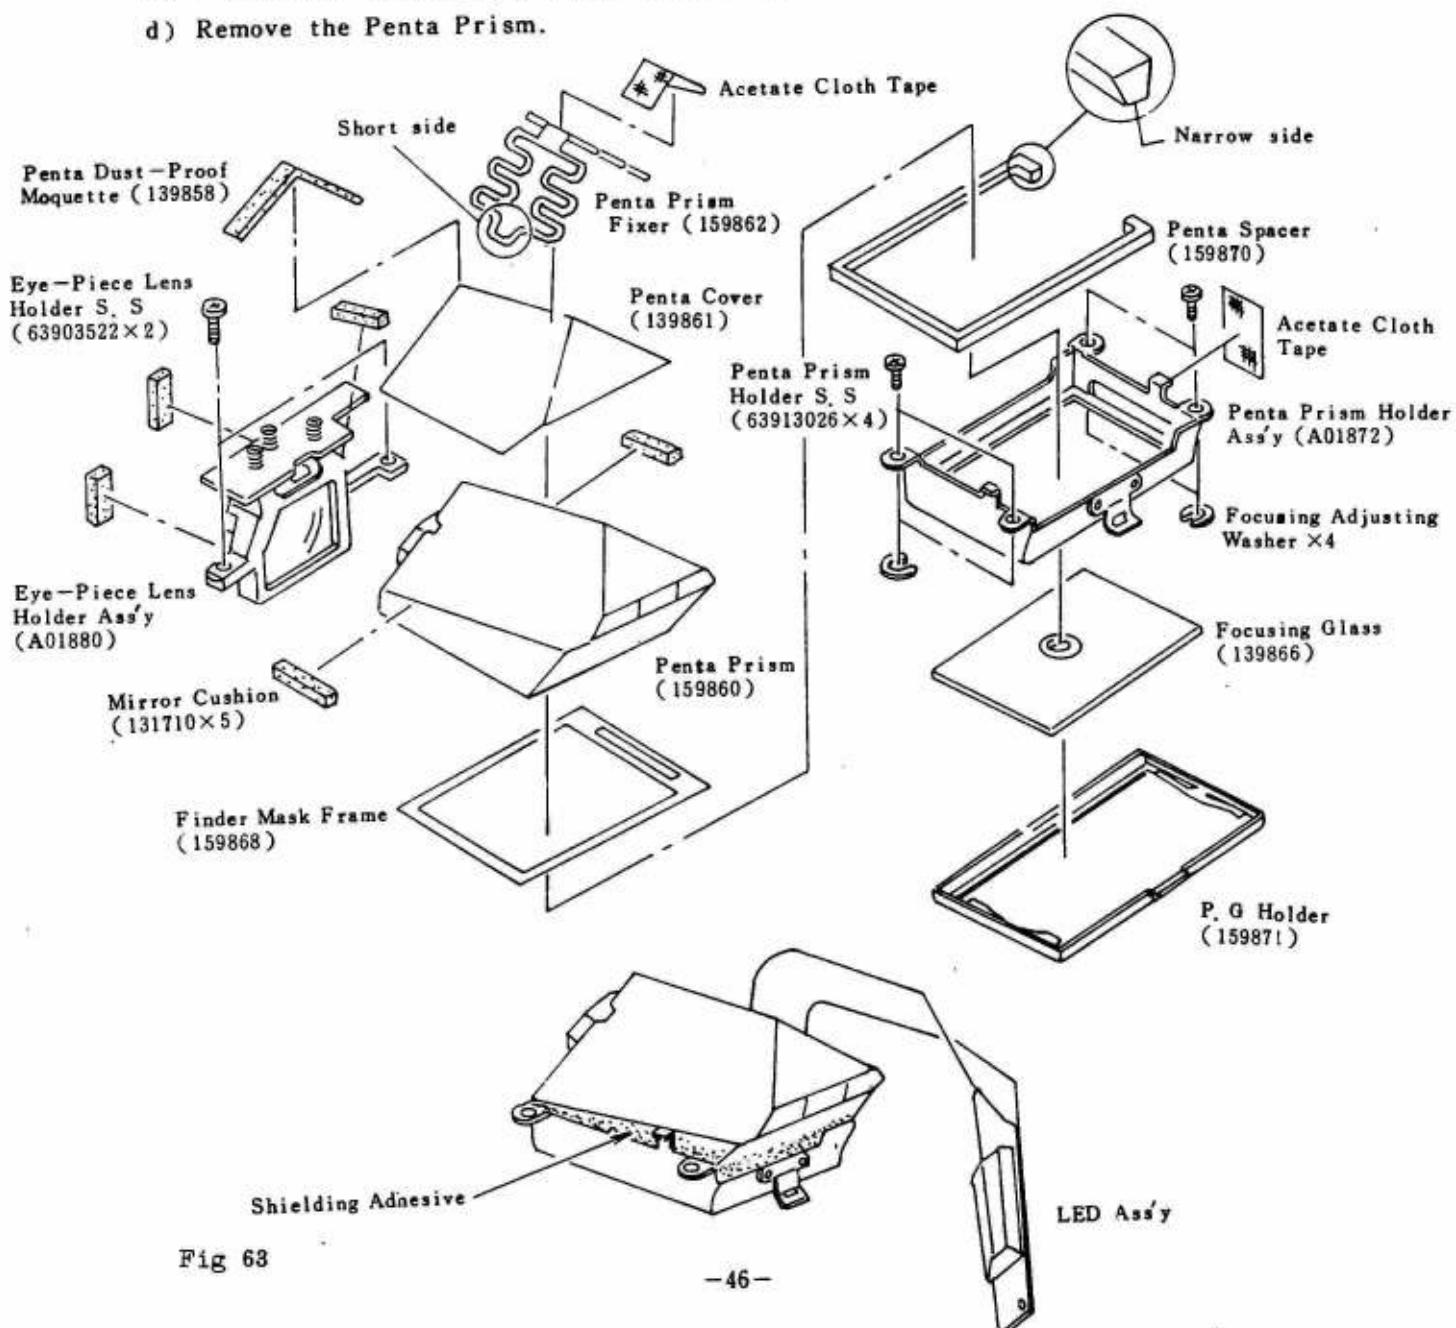
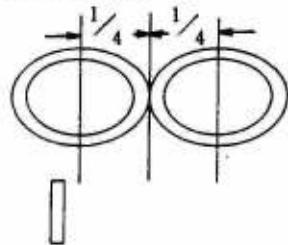

Fig 63
Fig 68
- c) Remove the shielding adhesive from around the Penta Prism as shown in (Fig 63).
When the finder focus error is out of " $\pm 1/4$ " range (Fig 68) adjust the finder focus by changing the Focusing Adjusting Washers (Fig 63).